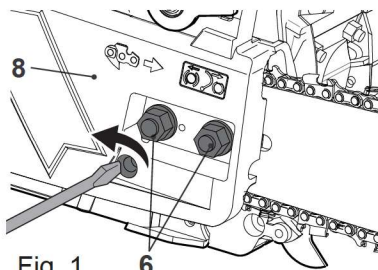

Fig. 1
- > Loosen the nuts [6] and remove the cover [8] (Fig. 1/2)